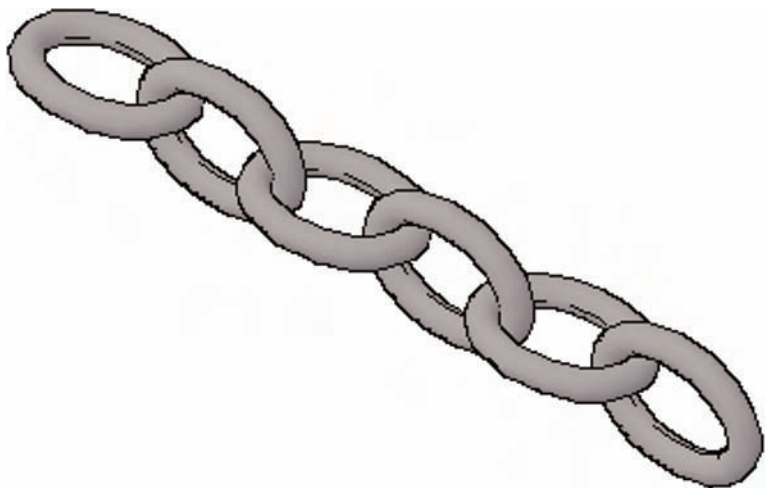

Fig. 14.15 Exercise 3
3. Each link of the chain shown in Fig. 14.15 has been constructed using the **Extrude** tool, extruding a small circle along an elliptical path. Copies of the link were then made, half of which were rotated in a **3D Views/Right** view and then moved into their positions relative to the other links. Working to suitable sizes, construct a link and from the link construct the chain as shown.